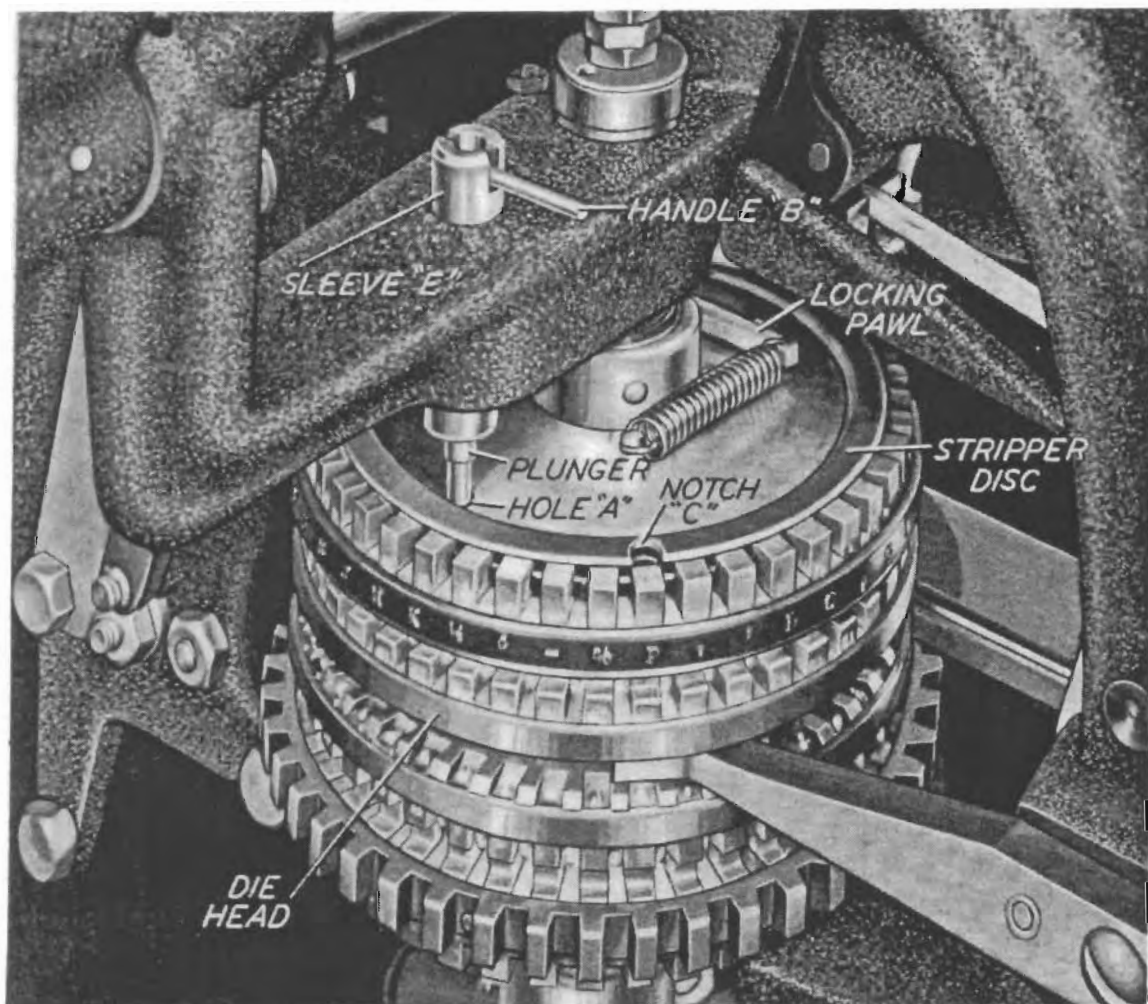

FIGURE 10. View of Class 6340 Die Head.
1. Facing the rear of the machine turn the die head by hand until the hole "A" (figure 10) in the stripper disc is directly beneath the bottom end of the plunger, as shown in figure 10.
2. Lower the plunger by turning the handle "B" until it locates in the *deep* slot in the sleeve "E", as shown in figure 10. This will permit the lower end of the plunger to drop into the hole "A" in the stripper disc.
3. Turn the die head clockwise until the die to be replaced is located directly beneath the notch "C" (figure 10) in the stripper disc. Then remove the die by pushing it upward through the notch "C" in the stripper disc. NOTE: With the plunger located in the hole in the stripper disc, more effort will be required when first starting to turn the die head. However, after it is disengaged from its locking pawl, the die head will then turn with comparative ease.